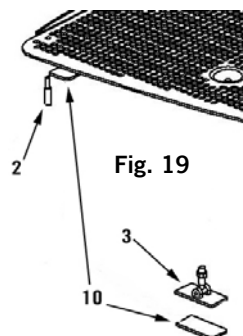

Fig. 19
Remove backing strip **Rubber Pads** (10), and press onto bottom of Foot Assembly and front edge of Shelf. Thread **Shelf Pegs** (2) into holes on front edge of **Shelf** (1). (Fig. 19)